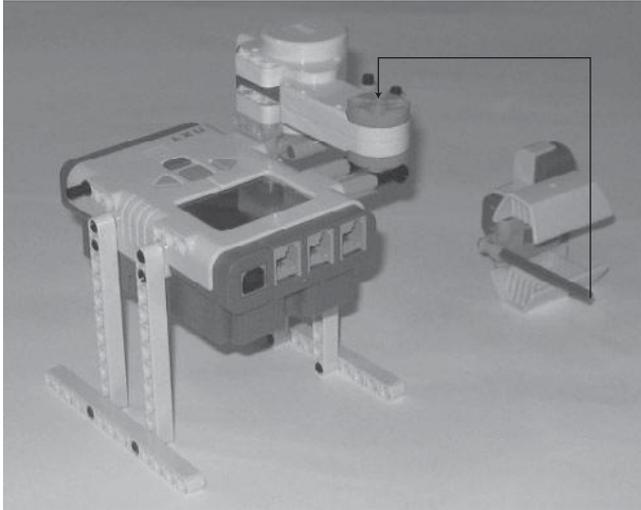

Figure 12.21
Step 4: Connect the ultrasonic sensor subassembly to the robot by inserting the open end of the 8M cross axle with end stop into the crosshair connection located in the center of the servo motor's upper side, as shown in Figure 12.21.